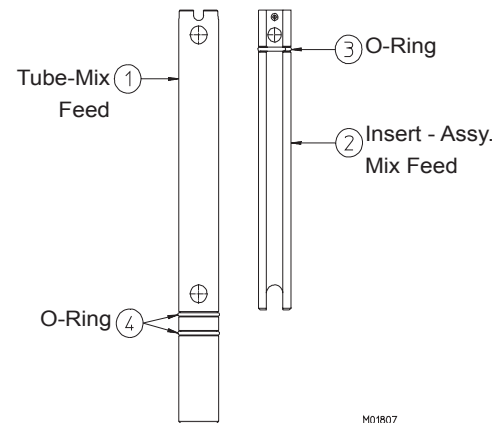

Figure 7-6
21. See Figure 7-6. Install the o-ring (3) on the mix feed insert (2) and lubricate. Then install the o-rings (4) on the mix feed tube (1) lightly lubricate. Place the insert inside the mix feed tube.